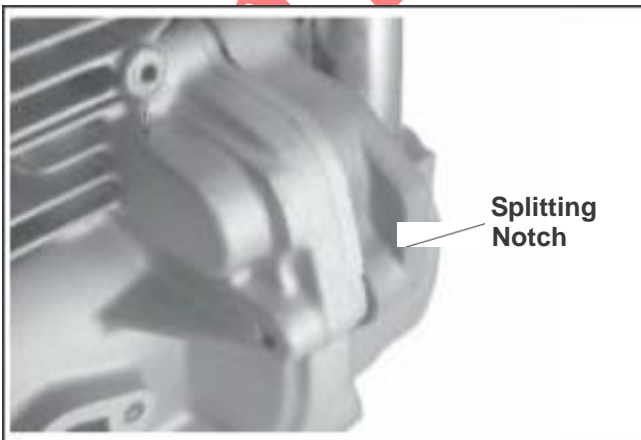

Figure 9-42. Splitting Notch of Closure Plate/ Crankcase.
2. Locate the splitting notches in the seam of the closure plate and crankcase. See Figure 9-42. Pry the closure plate from the crankcase using a large flat-blade screwdriver.